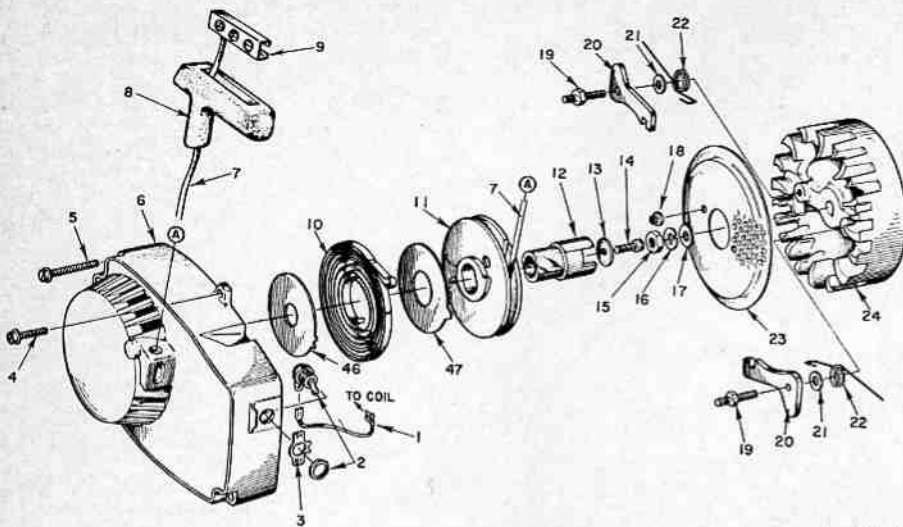

Fig. HL42A — Exploded view of late rewind starter and related parts. Plastic shields (46 and 47) keep sawdust out of rewind spring (10) and dampen noise.
Fig. HL42 — Exploded view of early rewind starter components and related parts. Starter unit is mounted on shaft (starter post) which is an integral part of the blower housing. Refer to Fig. HL42A for late starter assembly.
Fig. HL42B—Exploded view of latest production rewind starter assembly. Pulley (14) and integral starter cup (see item 12, Fig. HL42A), together with spring lock (15) and spring lock bushing (15A), can be used to renew early starter pulley (11—Fig. HL42A) and separate starter cup. Ignition cut-off switch and wiring are also shown.
Later production starter and fan housing are shown in exploded view in Fig. HL42A. The starter post in fan housing (6) fits directly into hub of starter pulley (11) and no bushing is used. Inner spring shield (46) and outer spring shield (47) have been added to dampen noise and keep sawdust out of rewind spring. Latest type fan housing (6—Fig. HL42B) and bushing (6A) are required to renew fan housing not using bushing.
To renew early type starter pulley (12—Fig. HL42 or 11—Fig. HL42A) and/or starter cup (13—Fig. HL42 or 12—Fig. HL42A), use latest type pulley and integral starter cup (14—Fig. HL42B), spring lock (15) and spring lock bushing (15A).